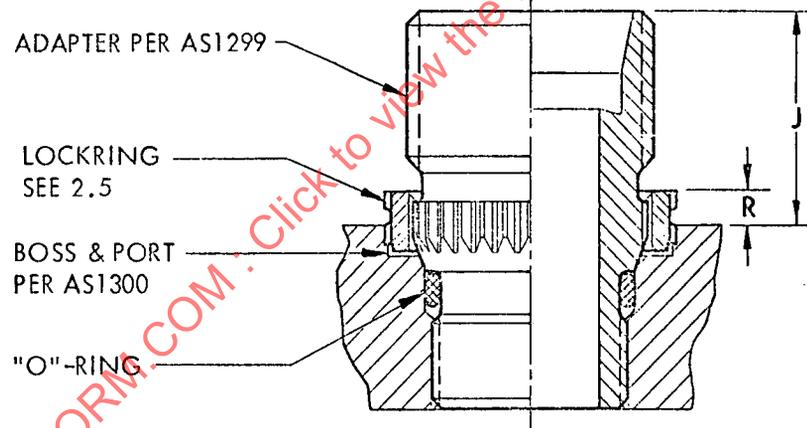

FIGURE 1 INSTALLED ADAPTER
- 2.3 Adapters per AS1299 installed per this document into bosses and ports per AS1300 shall have a stand-off per dimension "J" Figure 1 and Table I.